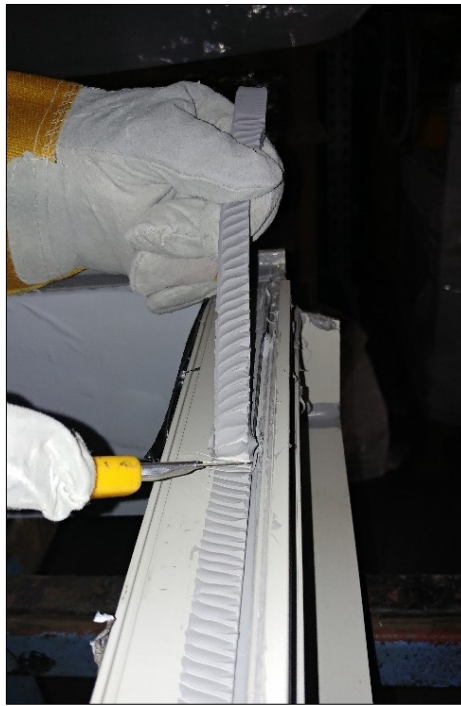

Figure 29: Testing joint adhesion along the whole frame – Good adhesion.
3. With reference to the joint portion bonded to the frame, cut approx. 30 mm of bead from the substrate with a sharp knife or glass scraper [7], taking care not to damage the substrate (Figure 29).
5. If the cured adhesive cannot be detached, use the knife to cut it at a distance of approx. 1.0-1.5mm from the frame interface several times while pulling (Figure 29).